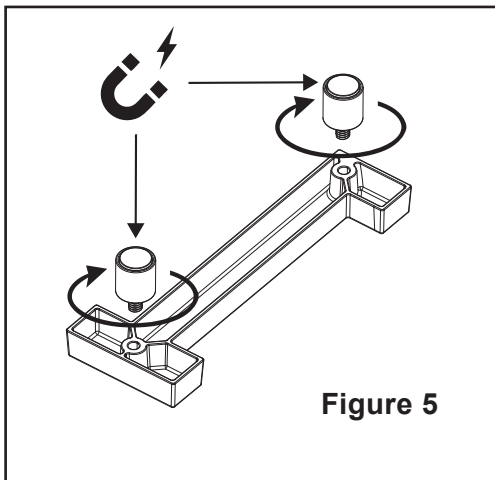

Figure 5
- 2 One by one begin to screw magnetic stand-off adapters into the one of two threaded holes on the backside of the Modern Stand-Off Address numbers. (See Figure 5)